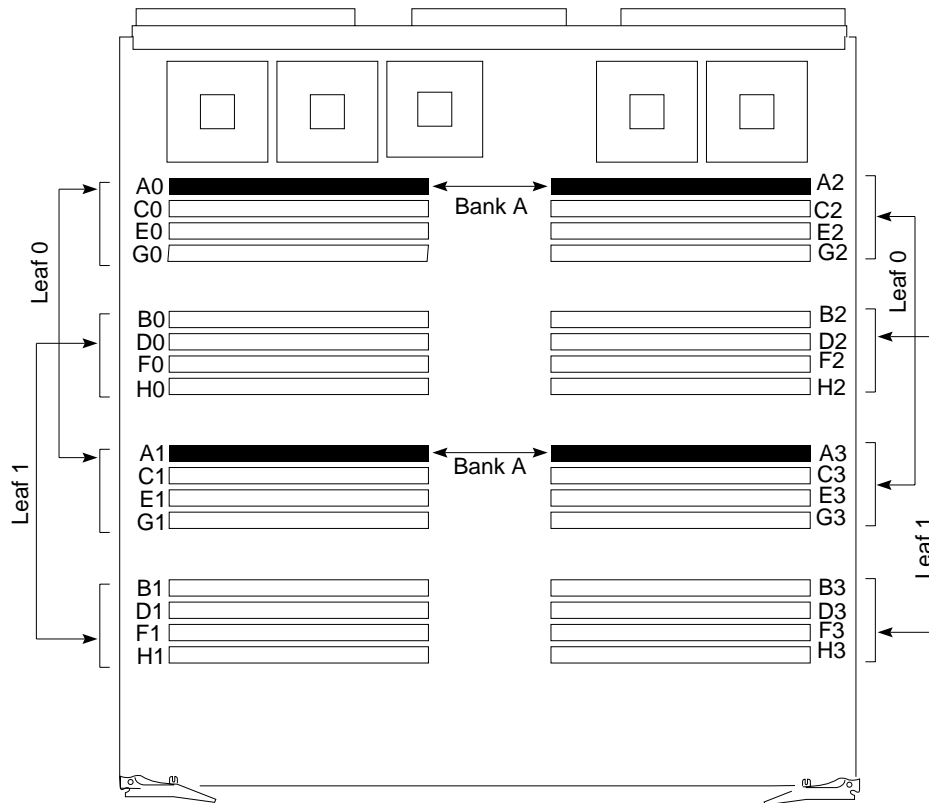

Figure 3-14 Memory Bank Organization
1. Slide each SIMM module directly into a single SIMM location with the notch at the ejector tab end (see Figure 3-14).